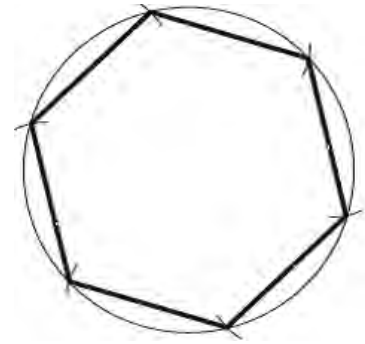

Fig. 1.23: Drawing a hexagon
3. Using a scale join the six points to form a regular hexagon as shown in Fig.1.23.